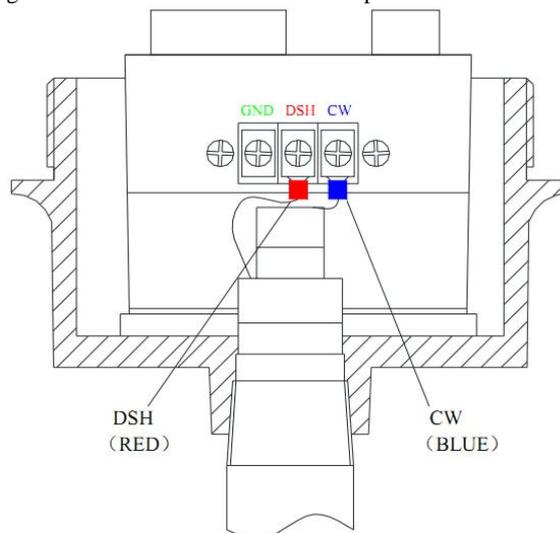
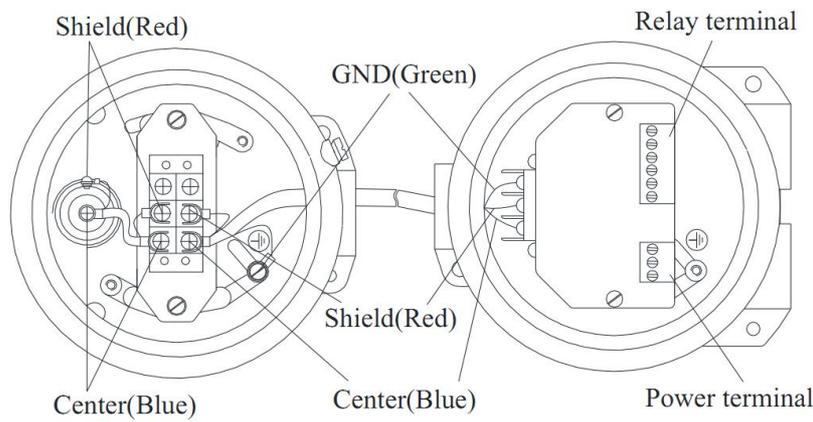

Figure 4.5 Integral System wiring
Figure 4.6 Remote System wiring
For integral mounting, the sensing element is usually pre-wired at the factory. If the system were shipped unassembled or you want to replace the cable see figure 4.5 below. All of the sensing element connections are made to the terminals on the opposite side of the power and relay connections. The shield wire (red) and the center wire (blue) are twisted, be sure the shield wire connects to the electronic unit shield terminal (DSH), the center wire connects to the center terminal (CW). Since a metal housing is used the electronic unit ground does not have to be connected. At the probe end, connect the Center wire (blue) to the center rod of probe and the shield wire (red) to the shield of probe. See figure 4.6 system wiring. Remote wiring connections are the same as integral except the ground wire is connected at both the probe and electronic units.